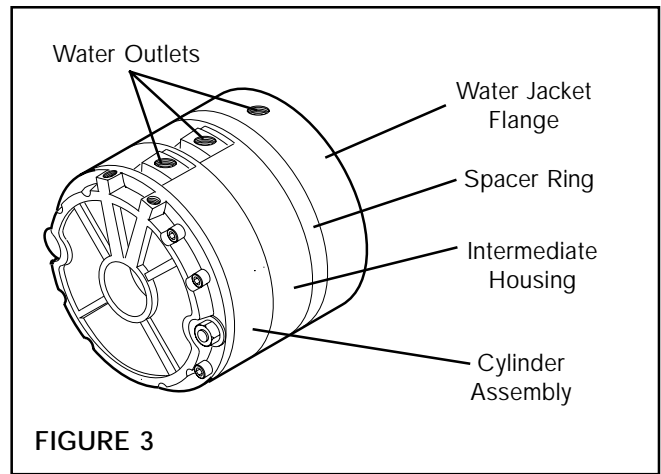

FIGURE 3
5. Slide Water Jacket Flange, Intermediate Spacer Ring, and Intermediate Housing over Hub and machine shaft (See Fig. 3).